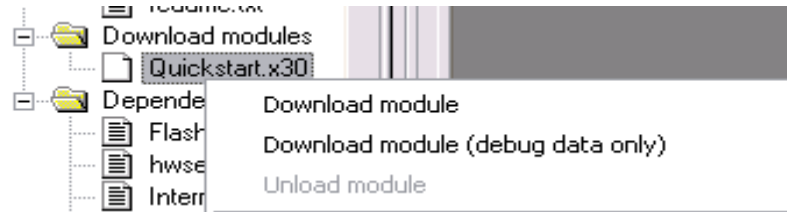

Figure 14: Download Module
- h.) Under the “Debug” menu item, select “Download Modules > All Download Modules”, or right click on the “.x30” file in the left (workspace) window and select “Download module” (Figure 14). This may take several seconds.